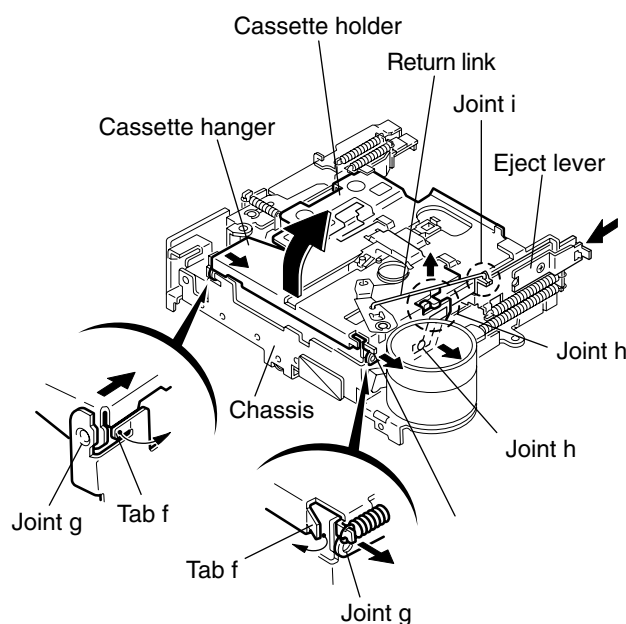

Fig.3
■ Removing the cassette hanger / cassette holder (See Fig.3)